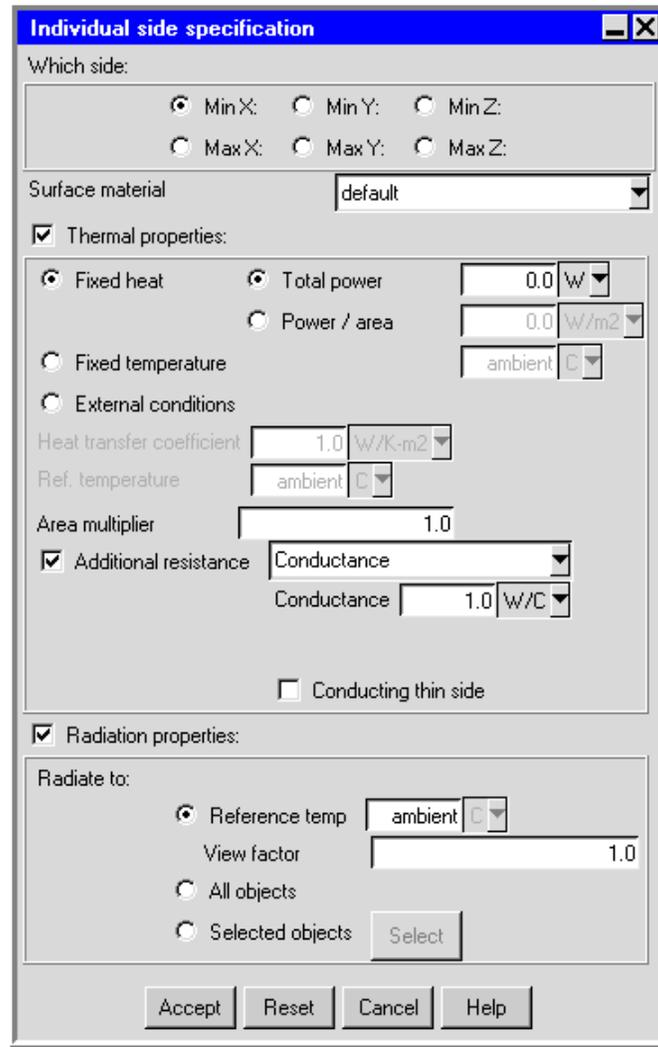

Figure 8.6.3: The Individual side specification Panel
- Select **Individual sides** to specify thermal and physical surface properties for individual sides of the block using the **Individual side specification** panel (Figure 8.6.3). To open this panel, select **Individual sides** under **Surface specification** in the **Blocks** panel and then click **Edit**.